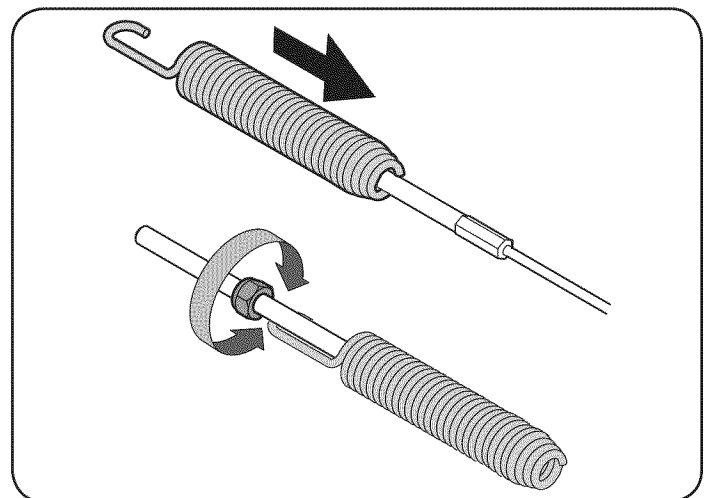

Figure 14
2. Slide the spring up the cable to expose the cable coupler threads and lock nut. Refer to Figure 14.